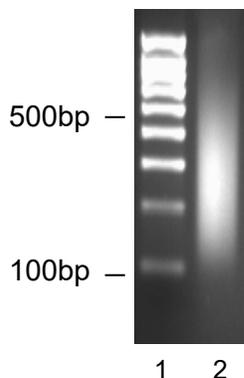

Figure 3: DNA Sonication
- Optimal conditions need to be determined to shear cross-linked DNA to ~200-1000 base pairs in length (Figure 3). See Appendix A for a typical protocol. Once shearing conditions have been optimized, proceed with the steps below.
- **Note:** Sonication conditions must be empirically determined using methods described in Appendix A (Optimization of DNA Sonication). The efficiency of sonication depends upon cell type, cell equivalents and instrumentation. Where possible, consult your instrument manufacturer's guidelines for instrument operation. An example of sonicated HeLa cell chromatin fractionated suitably for use with Magna ChIP is shown in Figure 3 (page 11).
C. Immunoprecipitation (IP) of Cross linked Protein/DNA